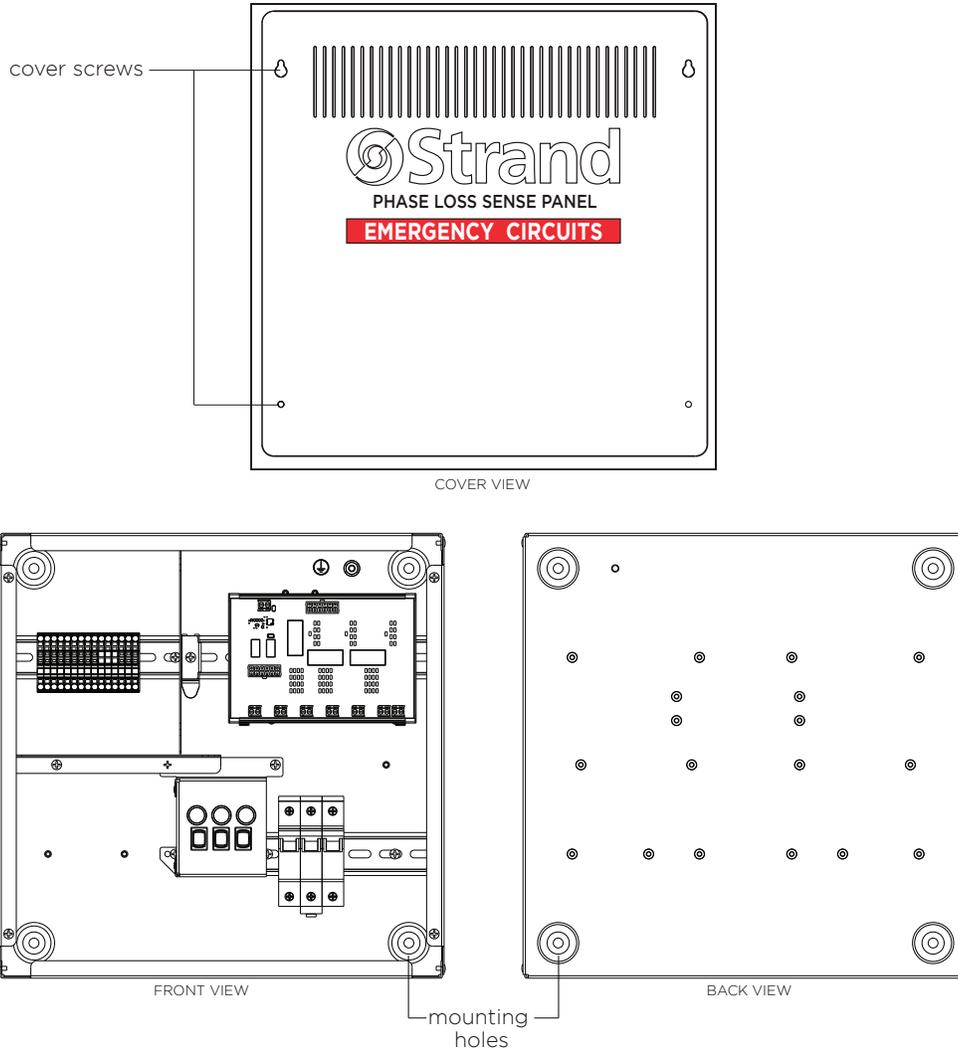

FIGURE 1. MOUNTING HOLE LOCATIONS
- Step 5. Secure Phase Loss Sense Panel to a permanent structure using suitable mounting hardware (not supplied) in accordance to local and national codes (as applicable). Refer to **FIGURE 1. Mounting Hole Locations** for mounting hole locations.